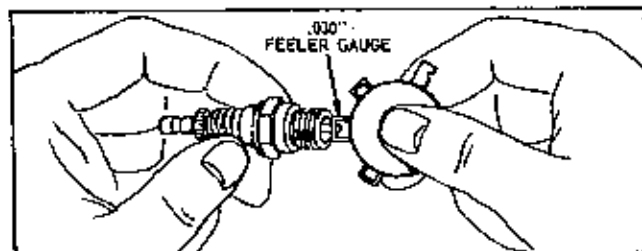

Figure 34. Setting spark plug gap.
3. Replace the cap (B).
**CLEAN AND REPLACE SPARK PLUG:** See figure 34. Every 100 hours the spark plugs should be removed, cleaned, and the gap reset at .030". When the spark plug is worn out, replace it with AC GC 46, Autolight A 71 or Champion J-8. **CAUTION: BLAST CLEANING OF SPARK PLUGS IN MACHINES THAT USE ABRASIVE GRIT IS NOT RECOMMENDED. SPARK PLUGS SHOULD BE CLEANED BY SCRAPING OR WIRE BRUSHING, AND WASHING WITH A COMMERCIAL SOLVENT OR GASOLINE.**